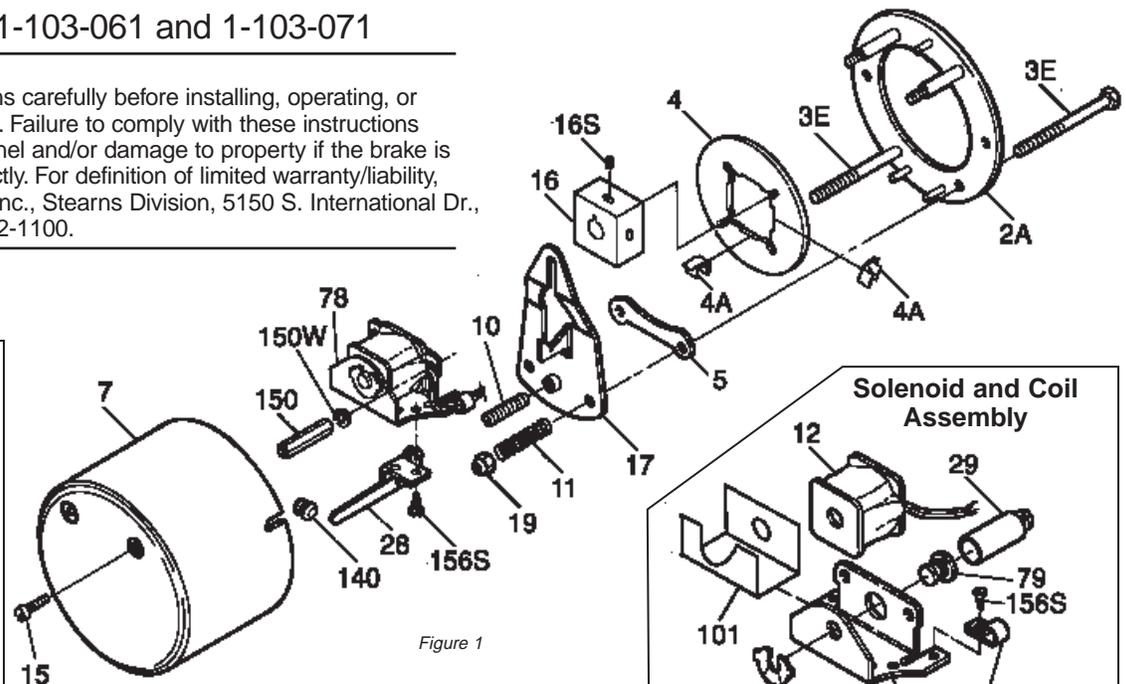

Figure 1
2. Unscrew the two hex housing studs (150). Remove the two lock washers (150W) and the coil assembly (78) from the solenoid studs (3E) of endplate. See Figure 1.
3. Unscrew the two torque adjusting nuts (19) from the spring studs (3E). Remove the lever (17) with the plunger remaining in its upper slot.
4. Remove the stationary disc (5) from the spring studs (3E).
5. Replace the worn friction disc (4) with the new disc.
6. Transfer the two stabilizing springs (4A) onto the new disc, 90° apart. Make sure the open end of one stabilizing clip faces outwards while the other faces inwards. See Figure 1. If the brake is mounted vertically below the motor, make sure the open end of both stabilizing clips face downward.
7. Reassemble in reverse order. Before reinstalling lever 17, unscrew wear adjust screw (10) counterclockwise 2-1/2 to 3 turns.